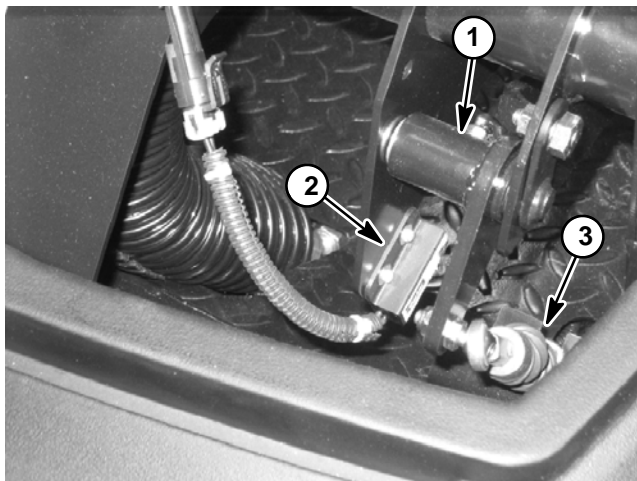

Figure 13
The clutch switch is a normally open proximity switch that is attached to the frame under the dash (Fig. 13). The switch is in its normal open position as long as the clutch pedal is released (clutch engaged). When the clutch pedal is depressed (clutch disengaged), the pedal is positioned close to the clutch switch causing the switch to close. The closed clutch switch is used in the starting interlock system to make sure that the drive system is disengaged during engine starting.
1. Park vehicle on a level surface, shut engine off, remove key from ignition switch and apply parking brake. Locate the clutch switch (Fig. 13).
4. With the use of a multimeter (ohms setting), test for continuity across the two (2) switch terminals. There **should be** continuity (zero ohms) when the clutch pedal is depressed and there **should not be** continuity (infinite ohms) when the clutch pedal is released.